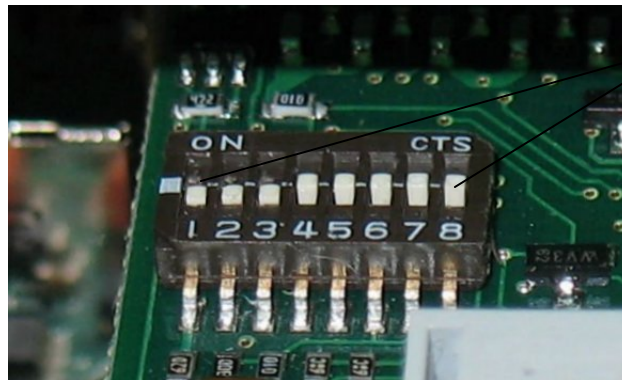

Fig. 41: DIP1-DIP8 switches (shown with factory settings)
4. Locate the DIP switches inside the unit (refer to Fig. 41).